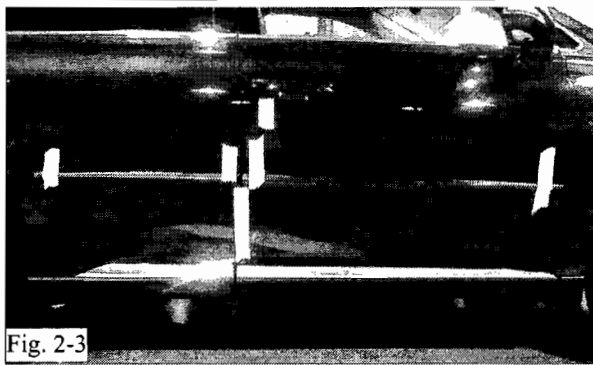

Fig. 2-3
- (c) Using masking tape, temporarily tape the front and rear moldings in place so that they are approximately parallel to the bottom of the doors as shown in Fig. 2-3. Each of the 4 moldings are identified as to the correct position on the vehicle. The bottoms of moldings should line up vertically with the top surface of the tape at the joint between the doors.